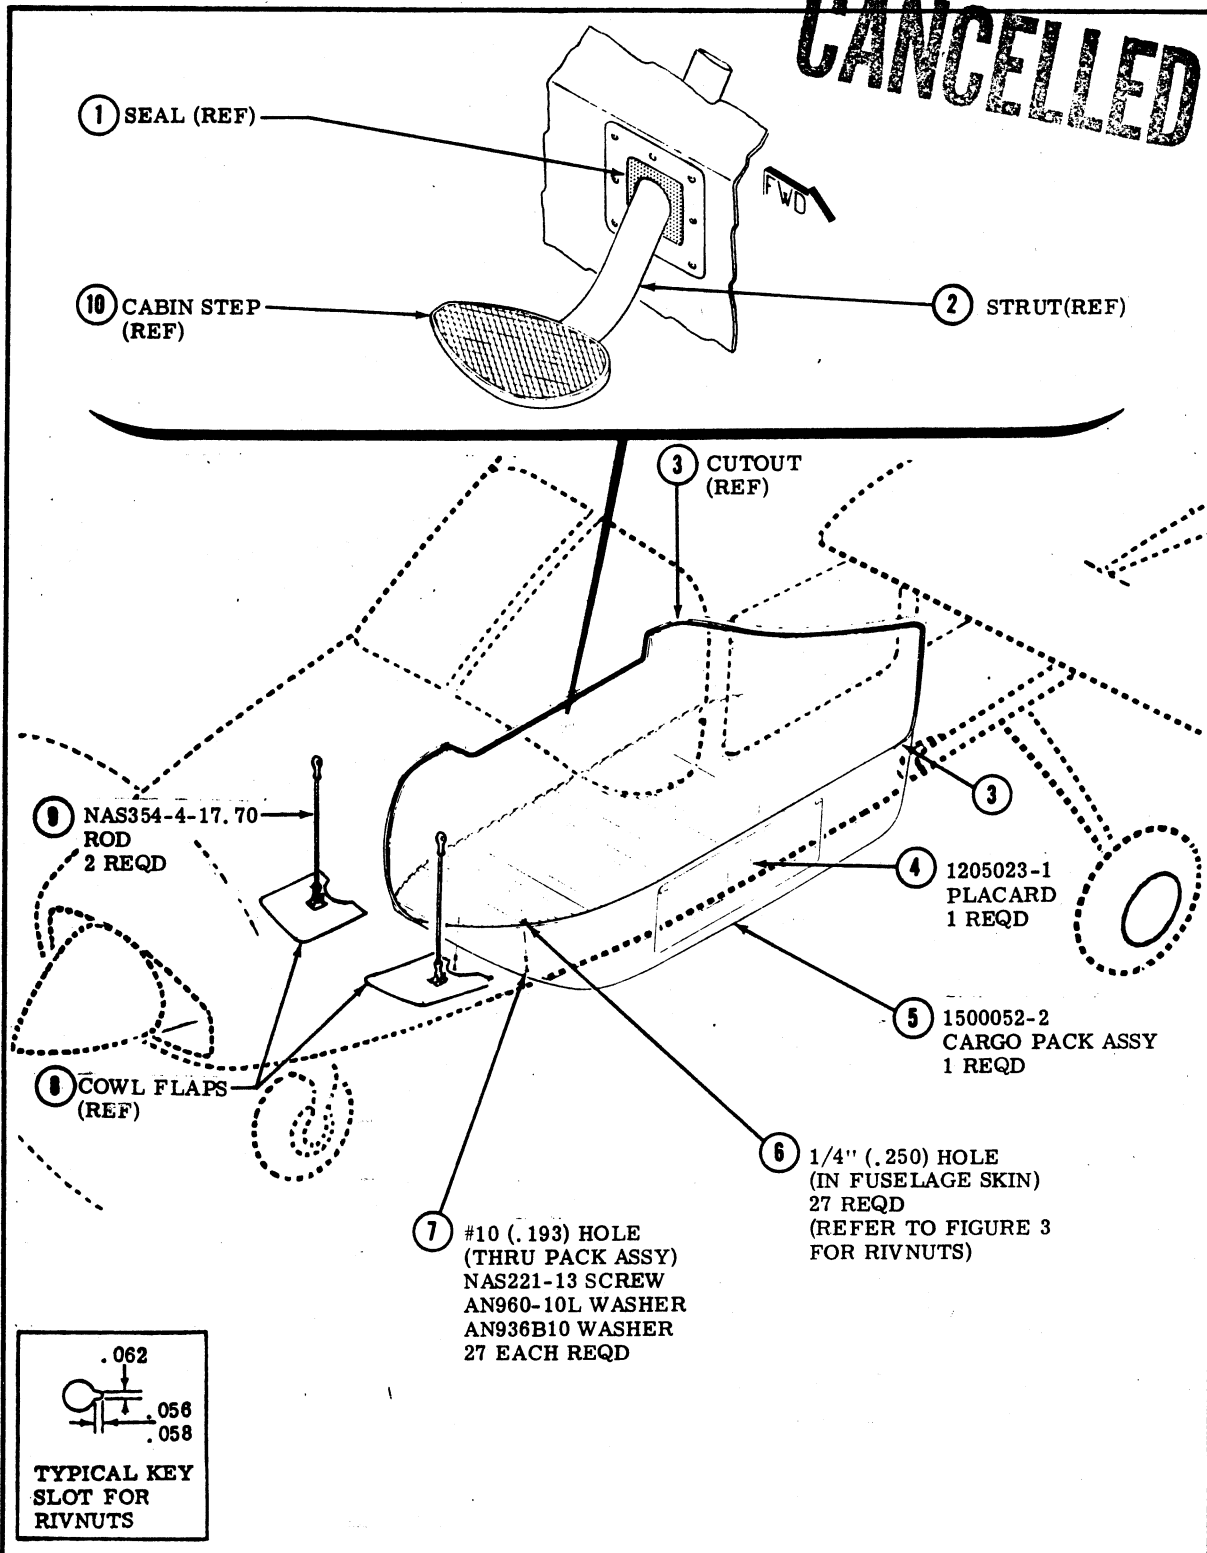

Figure 1. Cargo Pack Installed
a. Installation of Cargo Pack Assembly. (Refer to figure 1.)